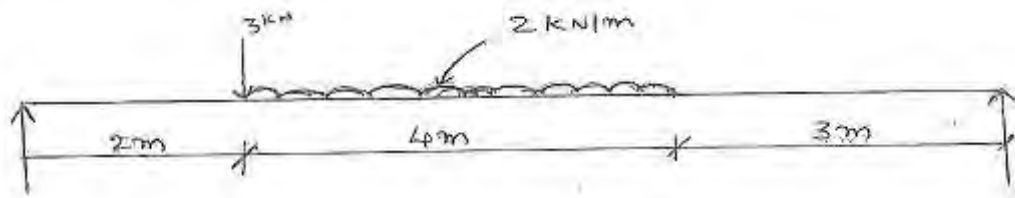

Figure 1
6. Sketch the shear force and bending moment diagrams showing the salient values for the loaded beam shown in the figure1 below. [16]